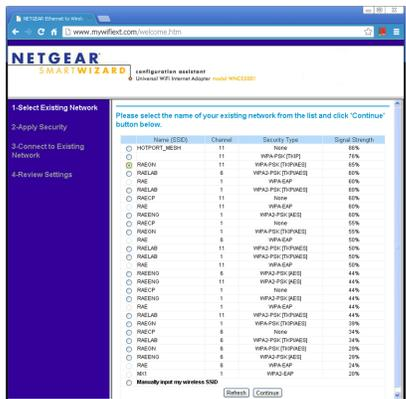

Figure 4. Select a wireless network. (This example shows all available wireless networks within range. Your choices will be different.)
4. Make sure that the PC has no other Ethernet connection (wired or wireless), except the connection to the Wi-Fi Internet Adapter. Open a web browser in Windows. The Wi-Fi Internet Adapter setup menu will be shown as Figure 4 to Figure 6. Note: You must select a region. Then click the “Continue” button.
- Following the process shown in Figure 4 to Figure 6, select a wireless network, enter the password for the wireless network, and confirm settings/connection.
9. Enable the PC's Wi-Fi and connect the PC to the same wireless network as the Wi-Fi Internet Adapter. (In this example, the wireless network used is RAEGN as shown in Figure 4.)
- a. **Manually.** Open the corresponding TCP/IP properties of the PC Wi-Fi (wireless) port. Manually set the IP address, subnet mask and default gateway as shown in Figure 4 for connection to the AutoRAE 2 Controller, which has DHCP disabled.